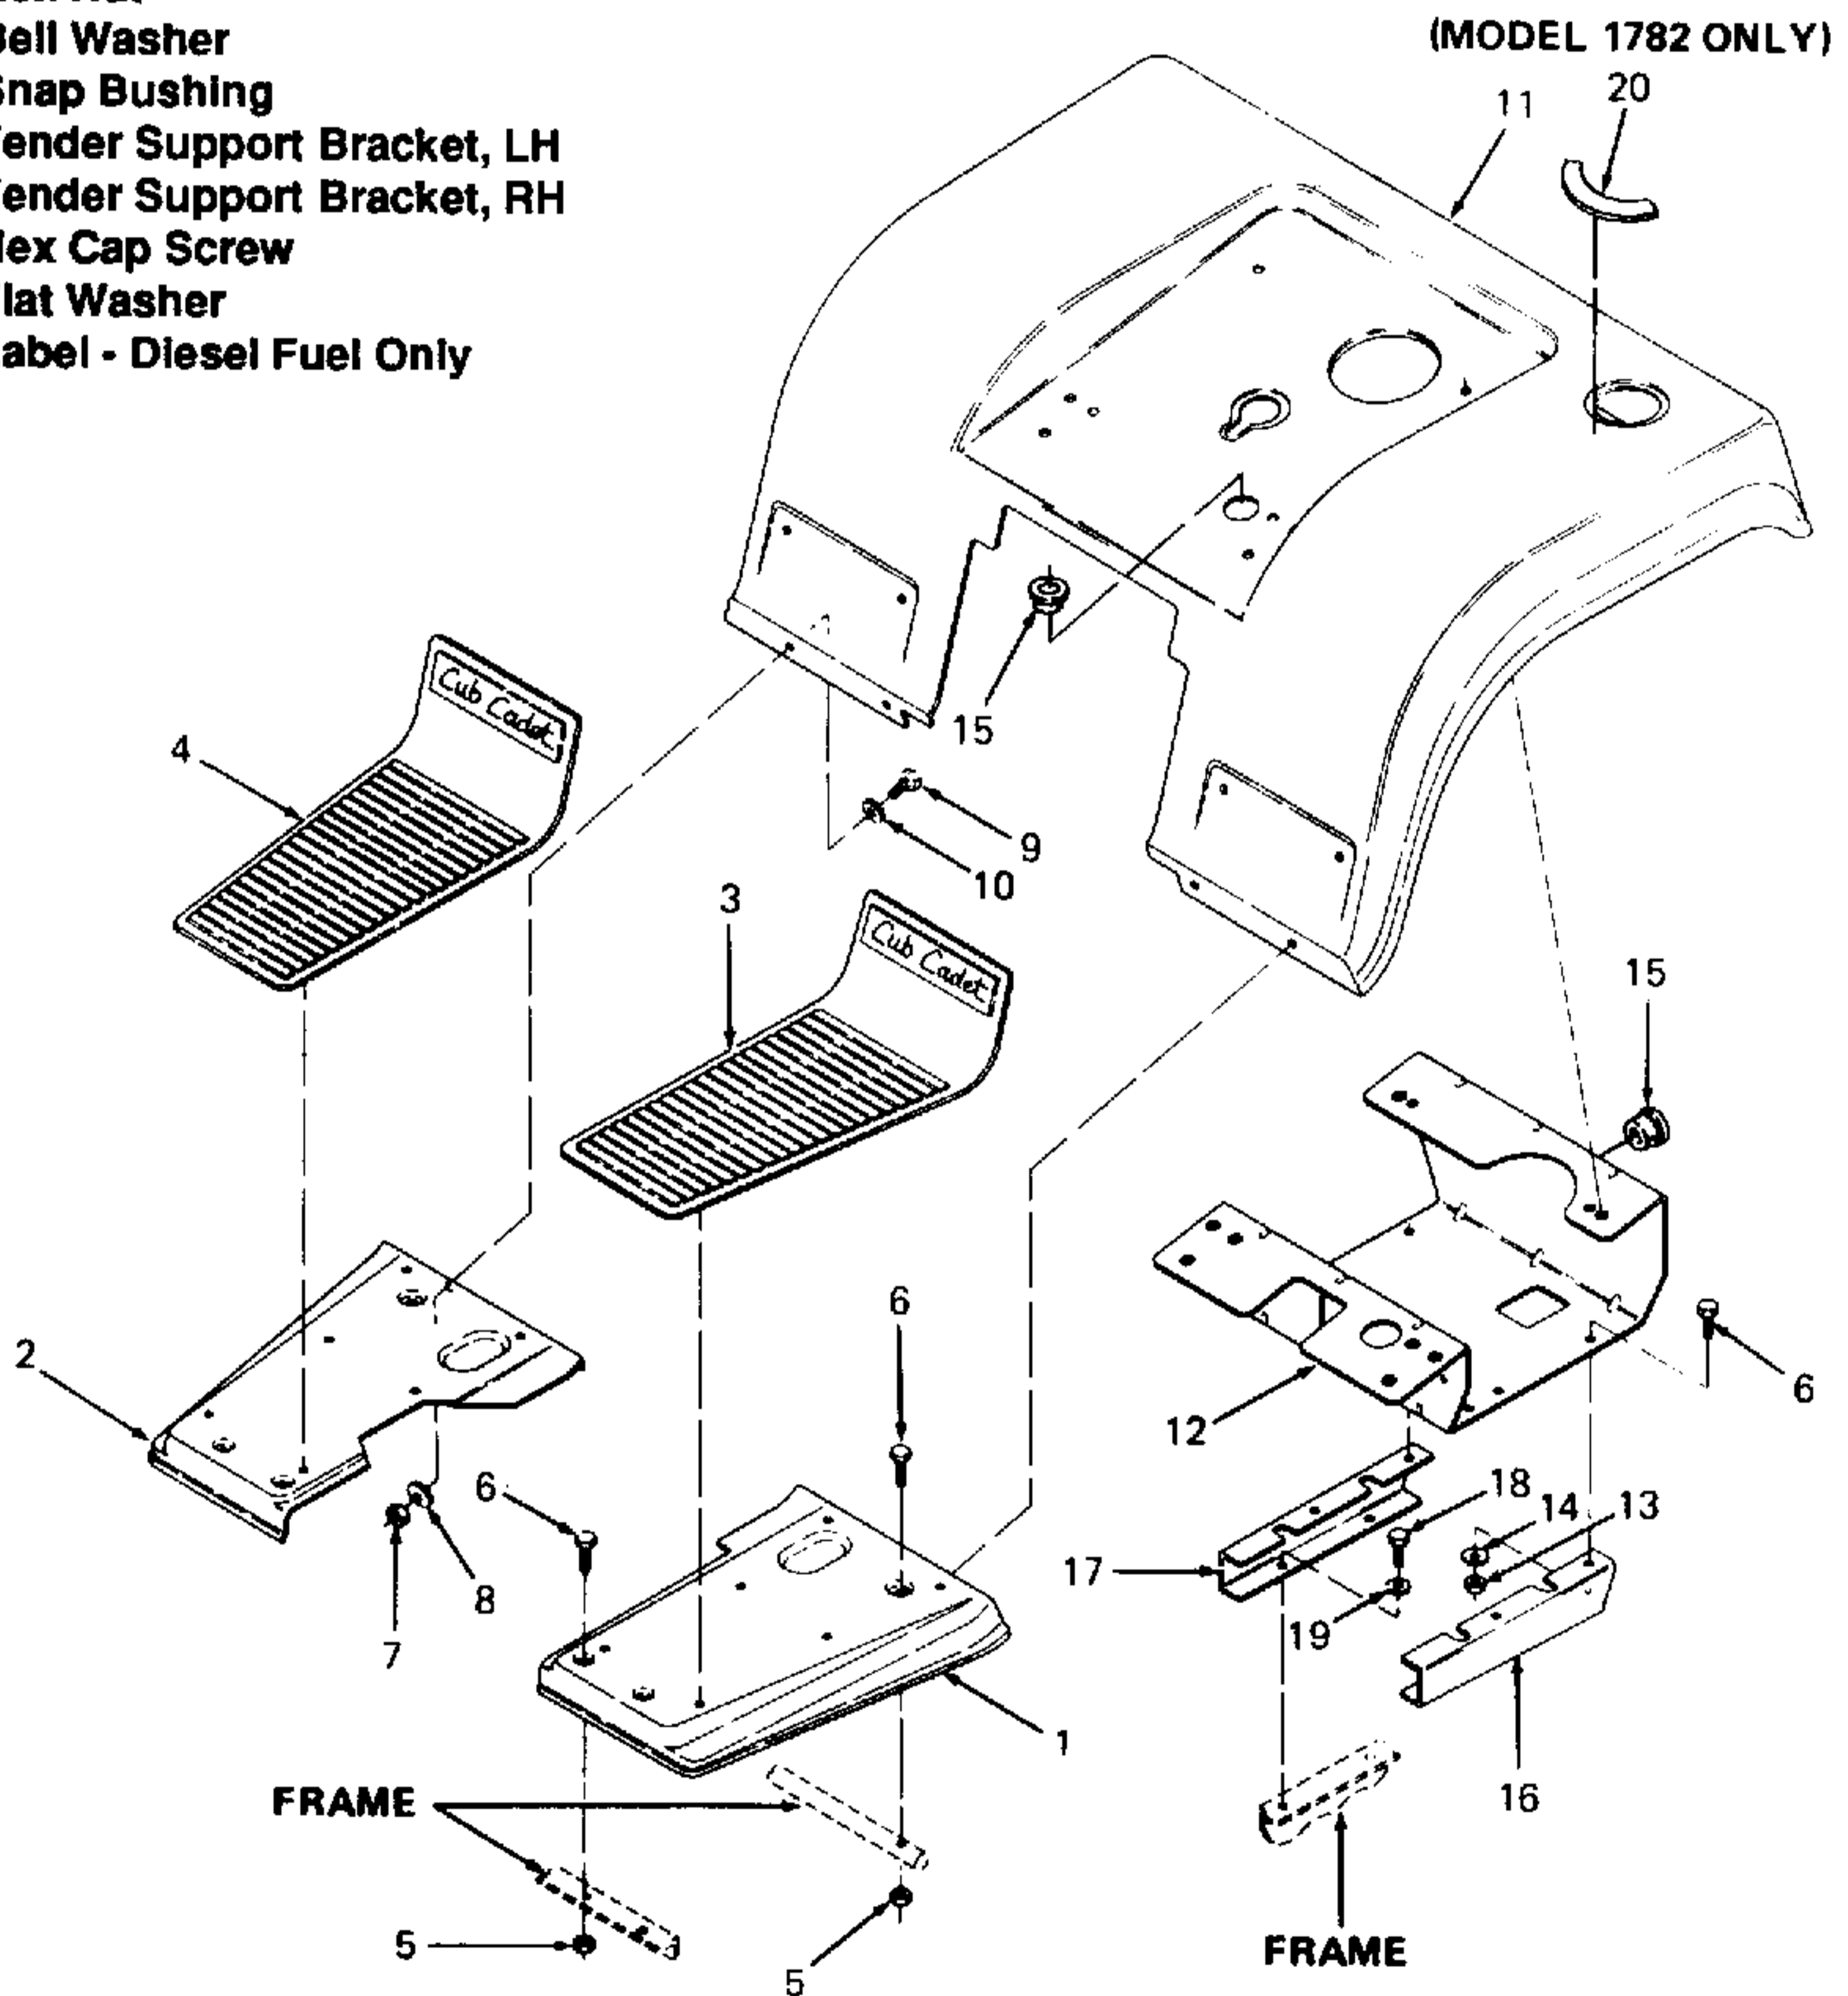

Figure 5-33. Fenders and Foot Rest (Models 1782, 1882, 2082 and 2182).
3. Remove left and right running boards (1 and 2, Figure 5-33) as follows:
- b. Remove hex center lock nuts (5), hex cap screw (6), hex patch lock nuts (7), bell washers (8), hex cap screws (9) and flat washers (10).